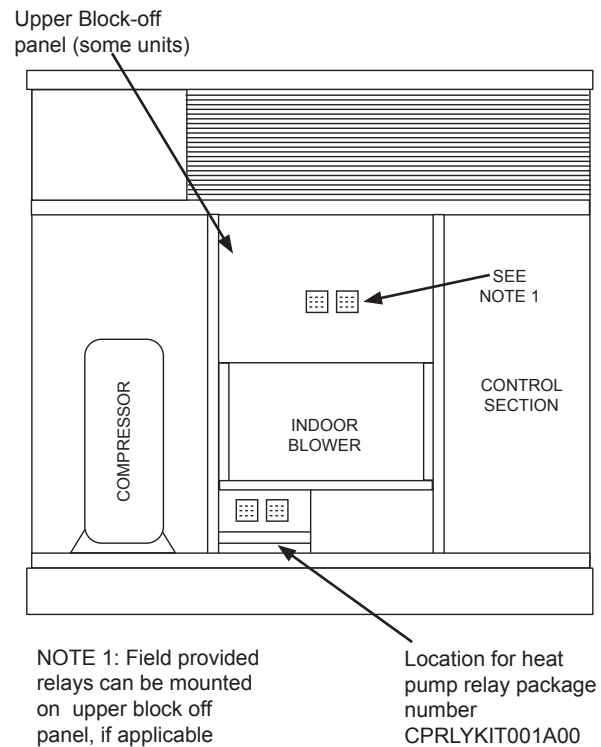

Fig. 12 - Relay Kit Location
A. If the optional relay kit CPRLYKIT001A00 is used, it will mount underneath the indoor blower as shown in Fig. 12 & 13. Follow instructions sent with the package.
B. If relays are field provided and installed, they can be mounted above the upper block off panel, as shown in Fig. 12. Use caution to ensure screws to do not interfere with blower operation, Blunt end screws are recommended.
C. If no upper block off panel is present mount relays on compressor partition below indoor blower on left as shown in Fig. 12.